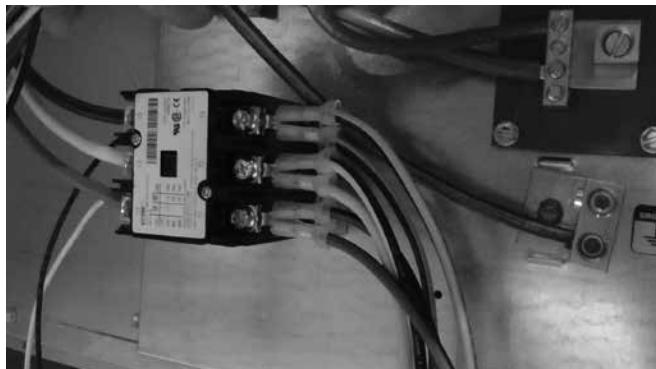

Figure 7. Element Line Voltage Connections
8. Attach Black (T1), Yellow (T2), and Red (T3) of contactor to circuit breaker L1, L2, and L3 as shown in Figure 7 or attach directly to 3 pole terminal block L1, L2, and L3 if no breaker is used.